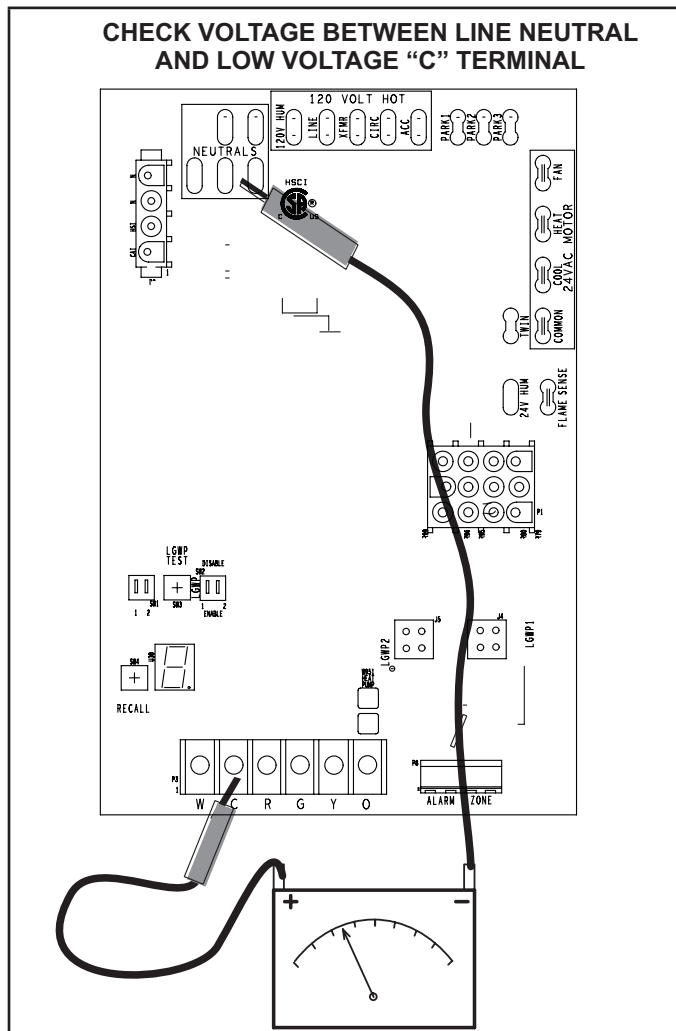

FIGURE 21
- 1 - Measure the AC voltage between Line Neutral (spade terminals) and "C" terminal (low voltage terminal block) on the integrated control. See FIGURE 21. A wide variation in the voltage between Line Neutral and "C" as a function of load indicates a poor or partial ground. Compare the readings to the table below. If the readings exceed the maximum shown in TABLE 13, make repairs before operating the furnace.